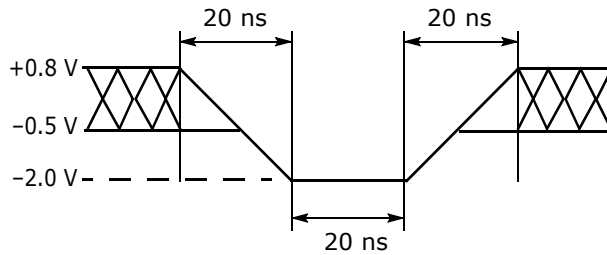
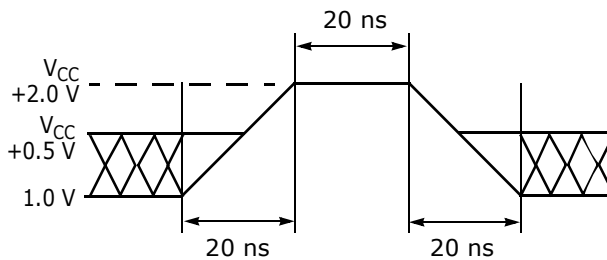

Figure 9. Maximum Negative Overshoot Waveform
Figure 10. Maximum Positive Overshoot Waveform
1. Minimum DC voltage on input or I/Os is -0.5 V. During voltage transitions, inputs or I/Os may undershoot V_{SS} to -2.0 V for periods of up to 20 ns. See Figure 9. Maximum DC voltage on input or I/Os is $V_{CC} + 0.5$ V. During voltage transitions outputs may overshoot to $V_{CC} + 2.0$ V for periods up to 20 ns. See Figure 10.